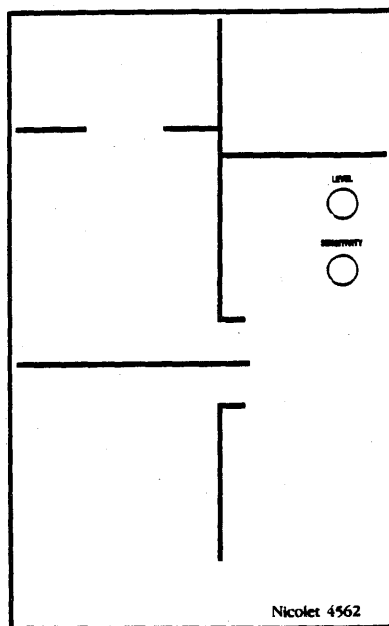

Figure 6-15
- #15. Adjust the trigger LEVEL control (Figure 6-15) until the two horizontal lines intersect with the waveform.
- #16. Adjust the trigger SENSITIVITY control (Figure 6-15) while watching for the waveform to "free-run".